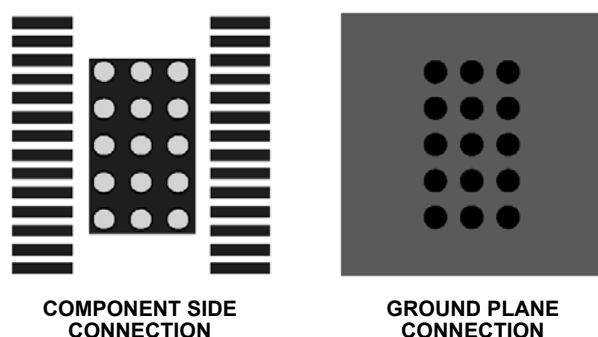

FIGURE 25. PCB LAYOUT - 28 Ld HTSSOP PACKAGE
3. If a multiple layer PCB is used, thermal vias (13 to 25 mil) must be placed underneath the thermal pad to connect to ground plane(s). Do not place thermal reliefs on the vias. Figure 25 shows a typical connection.